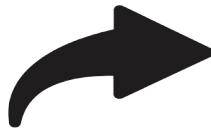

Figure 3.7b - Mulching
6. Repeat steps #4 and #5 as necessary. **See Figure 3.7b on page 23.**